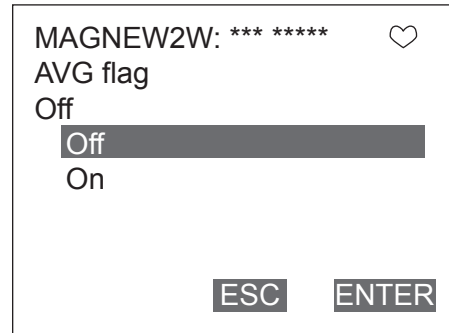

Fig. 7-23.
2. Once the display as shown in Fig. 7-23. appears, move the arrow key up or down to select On or OFF. After making a selection, press F4 (ENTER). If F3 (ESC) is pressed here, the selection will be canceled and the display will return to the Noise immunity menu.